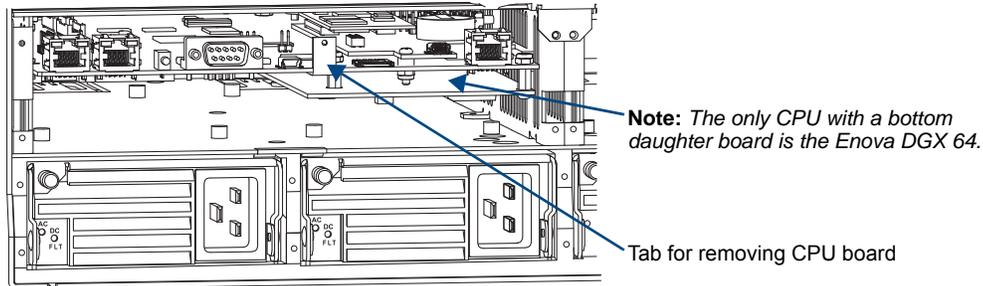

FIG. 140 Use tab to pull CPU board straight out (Enova DGX 64 shown)
- Use the tab indicated in FIG. 140 to pull the CPU board approximately four inches straight out of the enclosure.